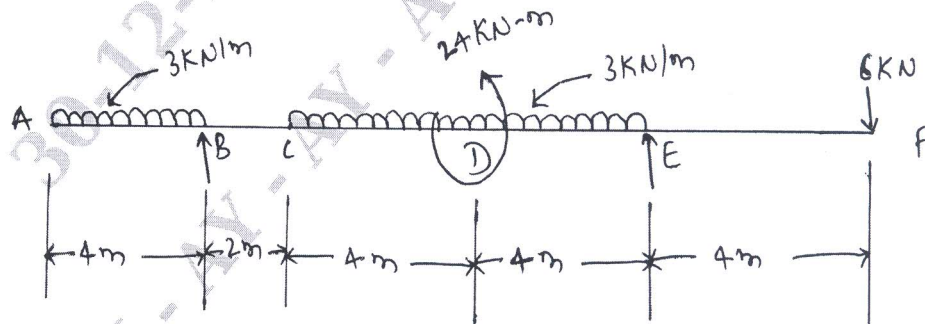

Fig.Q3(b)
b. Draw the bending moment and shear force diagrams for the beams shown in Fig.Q3(b). Indicate the salient values on the diagram.